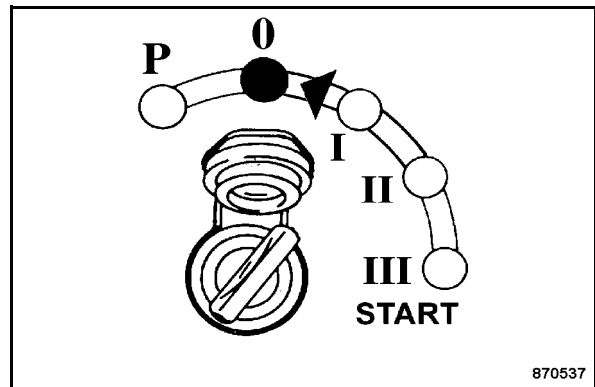

Fig. 62
- Turn the starter switch (Fig. 62) to position "0" or "P" and pull the ignition key out.